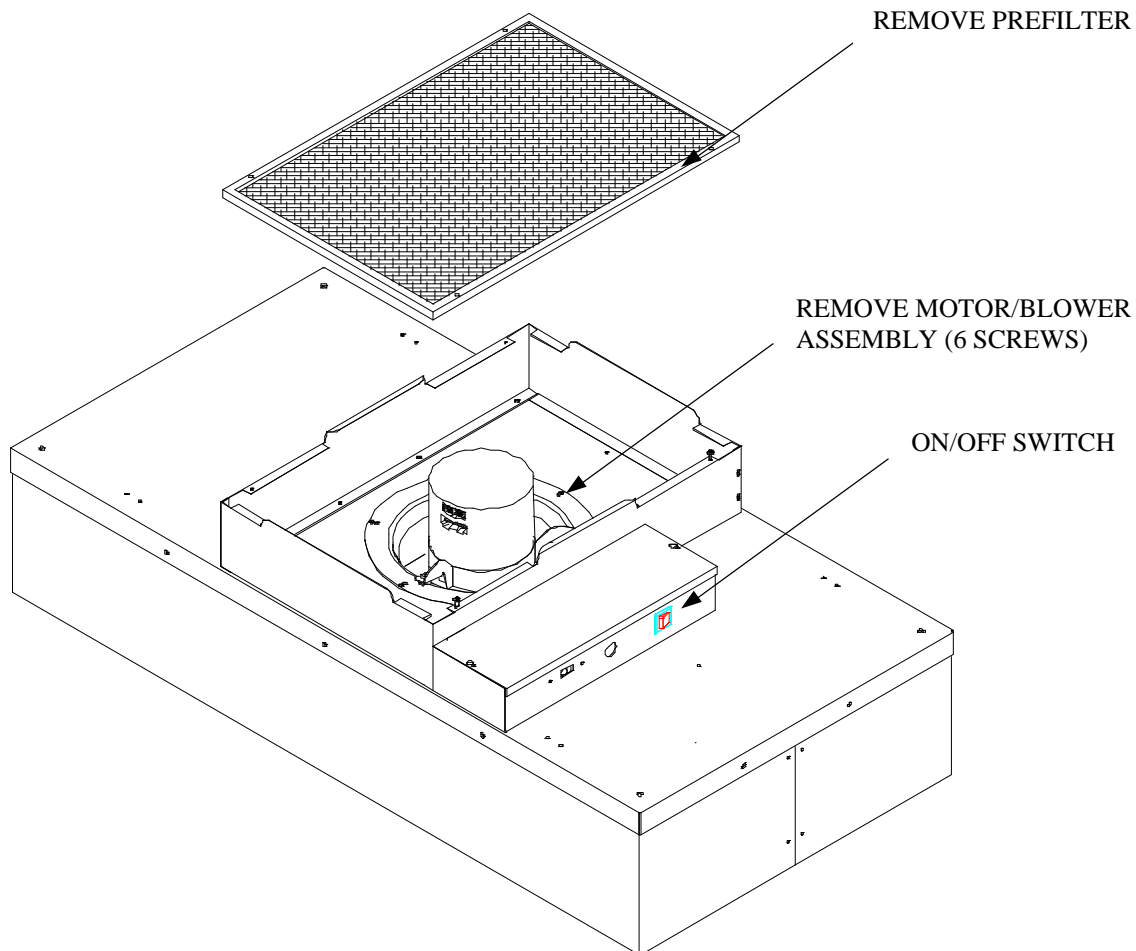

Figure 5
Step 2. Lift the prefilter off the prefilter frame.(see Figure 5)